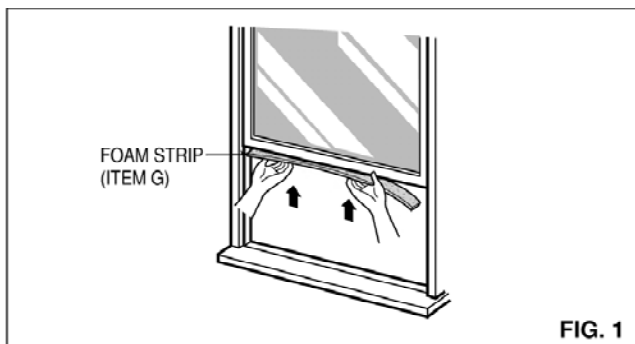

FIG. 1
1. Cut the FOAM STRIP (ITEM G) to fit the underside of the window sash. Open the window, peel off the FOAM STRIP backing and attach the FOAM STRIP as shown in FIG. 1.